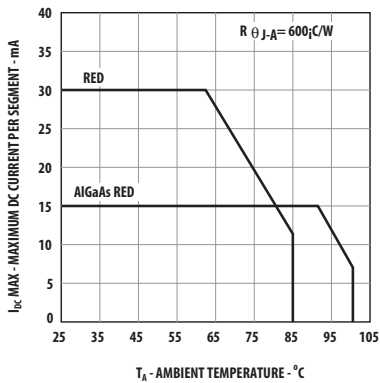

Figure 3. Maximum Allowable DC Current vs. Ambient Temperature.
5. Derate maximum DC current for Red above $T_A = 62^\circ\text{C}$ at 0.79 mA/ $^\circ\text{C}$, and AlGaAs Red above $T_A = 91^\circ\text{C}$ at 0.8 mA/ $^\circ\text{C}$. See Figure 3.